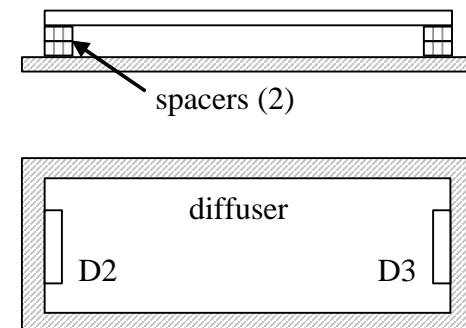

Figure 5-10
- Position the backlight assembly between the mounting holes labeled D2 and D3 as shown in Figure 5-10. *The diffuser must be parallel to and 1/8" (3 mm) above the PC board.* To hold the LED spacers and backlight assembly in place, use a rubber band or bend the LED leads out slightly on either end.